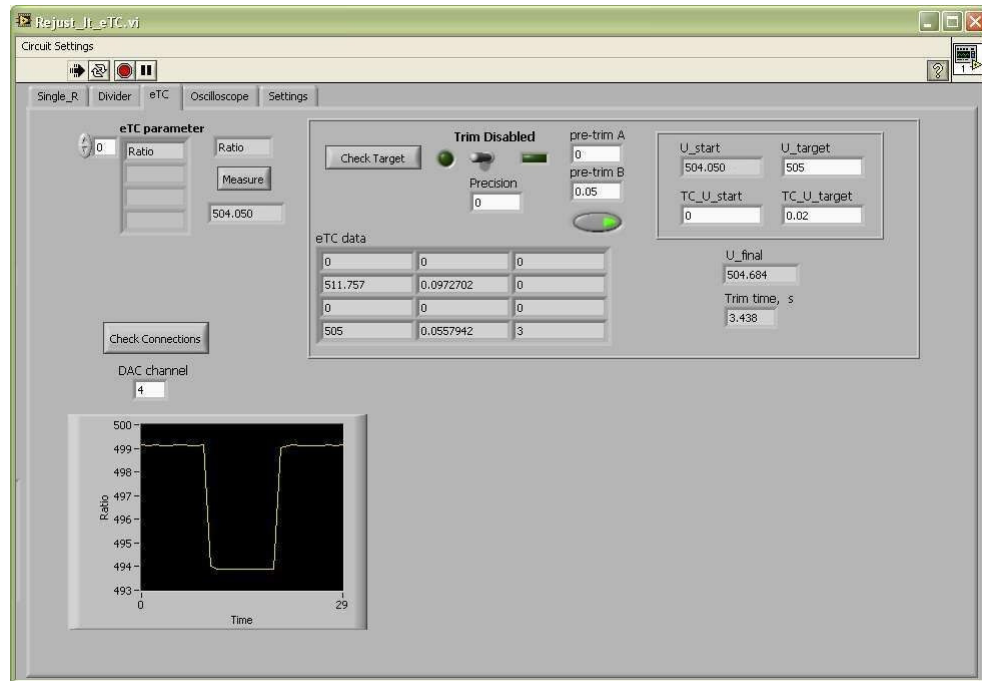

Figure 6: Rejust-it Graphical User Interface
**Rejutor** adjustment is performed with Rejust-it executable software. A sample screen-shot from Rejust-it is shown in Figure 6. Rejust-it measures the offset directly from the MBK-408A. The initial TC-Offset (gathered from measurements performed during temperature cycling) must be entered along with target values for Offset and TC-Offset. Normally the targets for Offset and TC-Offset are both zero, although this is not always the case. Remember that the MBK-408A with Rejust-it software is used to control the overall system of which the MBT-303-A is a portion. Normally the MBK-408A monitors the output of the system, whether it's an opto-detector, a sensor or an amplifier and sets the overall system offset and temperature response of the system.